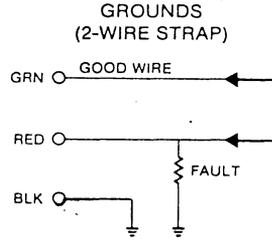

FIGURE 4
2.05 Hookup and Strapping for Grounds (2-wire strap) - For grounded conductor faults when only one good wire is available, connect the test cord clips as shown in Figure 4. Leave the orange clip unconnected. **Do not allow the orange clip to contact the other clips or ground** as measurement errors will result. Place a **solid strap** across the good wire and faulted wire at far-end of cable.